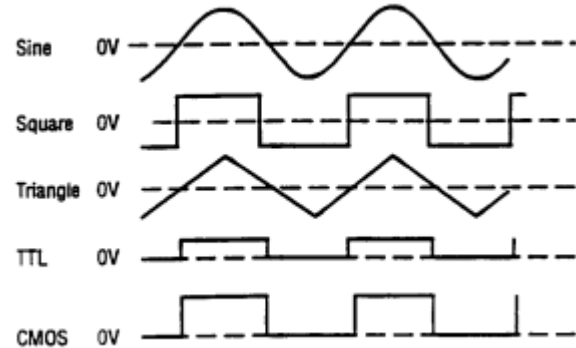

Figure 2. Output Waveform and Phase Relationship
1. Initially, verify that the **DUTY CYCLE** (17), **CMOS LEVEL** (15), **DC OFFSET** (14), **-20 dB** (11), and **SWEEP INT/EXT** (12) switches are in the OUT position (released). This will produce a symmetrical waveform unaffected by the sweep generator and other controls.
2. Plug the unit into an appropriate power source and turn it on by engaging the **POWER** switch (1).
3. Select the desired waveform (SINE, SQUARE, or TRIANGLE) by engaging one of the **FUNCTION** switches (3). Phase relationships of the waveforms are shown in Fig. 2.
4. Select the frequency of the waveform by depressing one of the **RANGE** switches (2). The output frequency is displayed, along with the appropriate measurement units, kHz or Hz (23), on the LED display.
5. Rotate the **COARSE** (20) frequency control to quickly set the output frequency to the approximate desired value. The **FINE** (19) frequency control can then be used to easily set the output